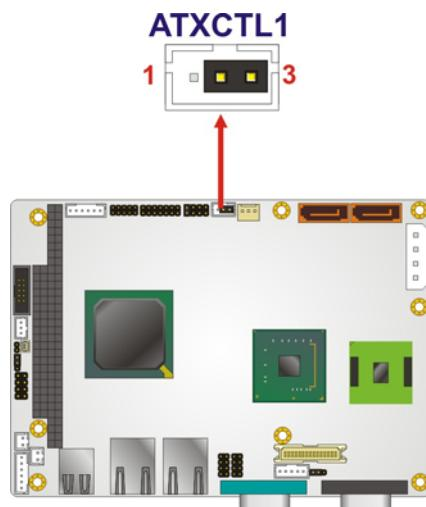

Figure 3-4: ATX Power Supply Enable Connector Location
**CN Location:** See Figure 3-4